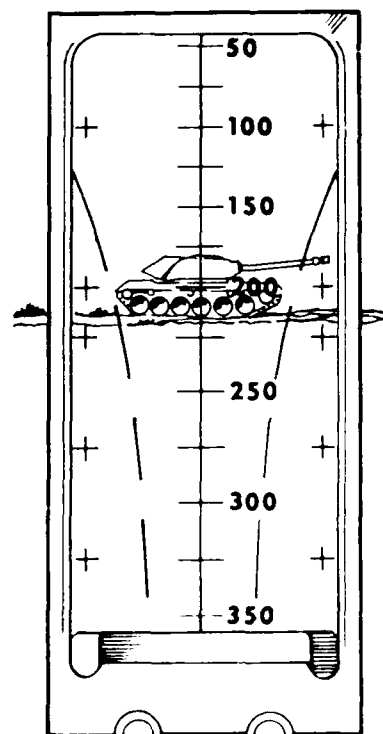

Figure 5-67.—Stationary target.
lines as described above. He then finds the range by using the stadia lines as described above. He then finds the range on the vertical range line and places that point on the target's center of mass (fig. 5-67).
2. *Target moving directly toward or away from the gunner.* Use half a sight picture to obtain the estimated range (fig. 5-67). Locate this range on the vertical range line and place this point on the target center of mass.